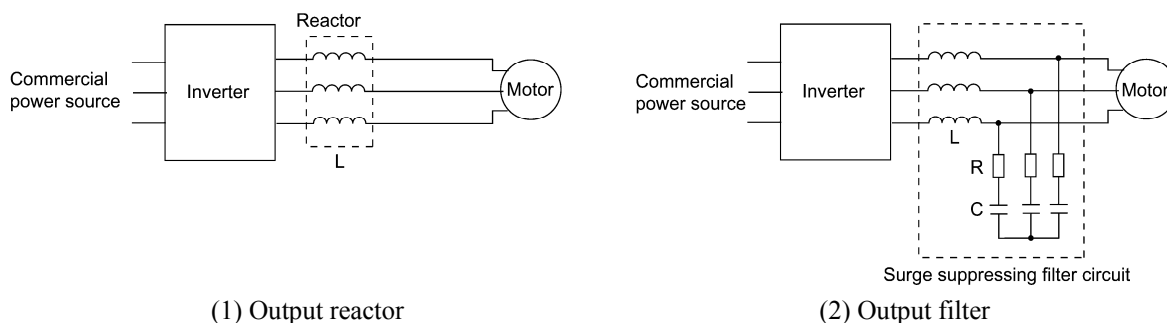

Figure C.3 Method to Suppress Surge Voltage
If wiring length is relatively short the surge voltages can be suppressed by reducing the voltage rise time ( $dv/dt$ ) with the installation of an AC reactor on the output side of the inverter. (Refer to Figure C.3 (1).)
Installing a filter on the output side of the inverter allows a peak value of the motor terminal voltage to be reduced. (Refer to Figure C.3 (2).)